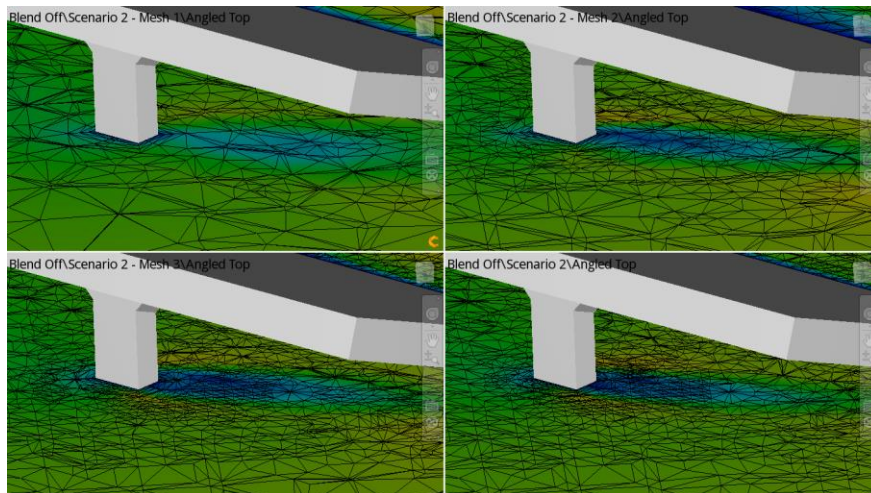

FIGURE 22: DETAILED VIEW OF LEG OF SOLAR PANEL
- Figure 22 really captures that how with even a rough mesh around the leg of the array, the adaptation does capture more of the wake structure and improves the overall resolution around the circumference.